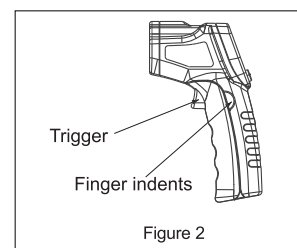

Figure 2
1. Operating the unit: Figure 2